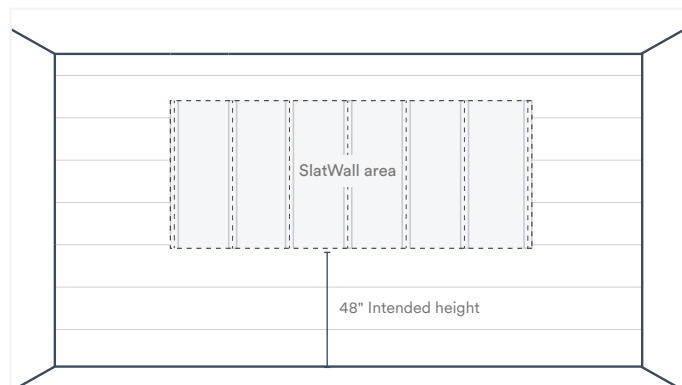

Fig. 30
- The distance from the floor to the bottom of the first SlatWall panel is an even increment of 16" (the width of the exposed face of Wall&CeilingBoard panels). The resulting connection between SlatWall and Wall&CeilingBoard is shown below (Fig. 30).